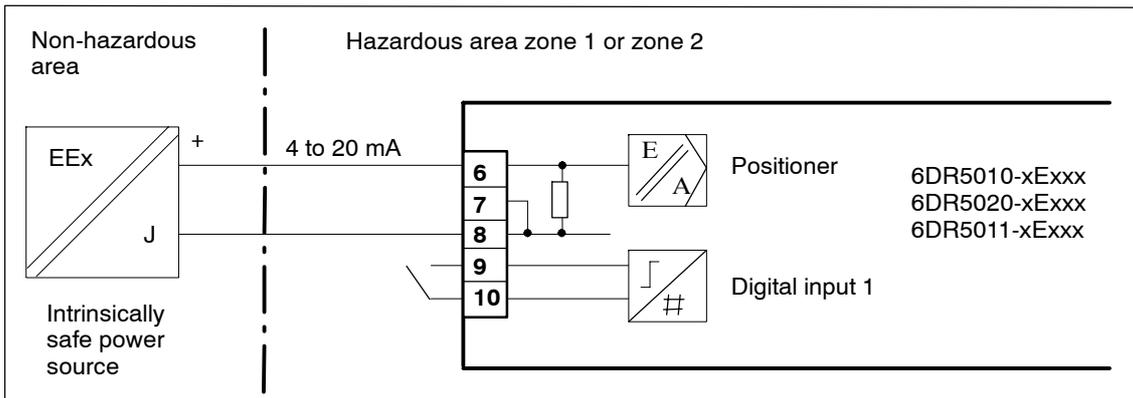

Figure 3-19 Two-wire connection, EEx i
4. Connect a suitable current or voltage source (see figure 3-13, page 53 and figure 3-19, page 56).
5. The positioner is now in the operating mode "**P-manual operation**". The current potentiometer voltage (P) is displayed in percent in the top line of the display, e.g.: "**P12.3**", and "**NOINI**" flashes in the bottom line: